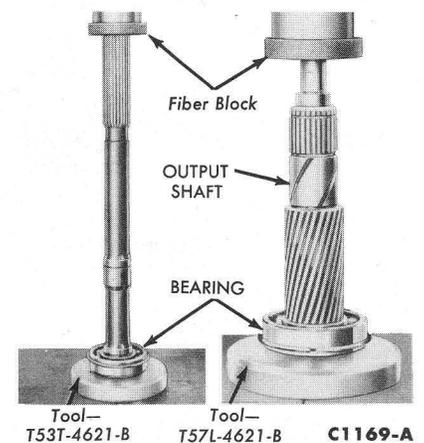

FIG. 6—Output Shaft Bearing Replacement
14. Remove the snap ring securing the output shaft bearing. Remove the bearing as shown in Fig. 6.
2. Press the output shaft bearing onto the output shaft as shown in Fig. 6 and install the snap ring on the shaft.